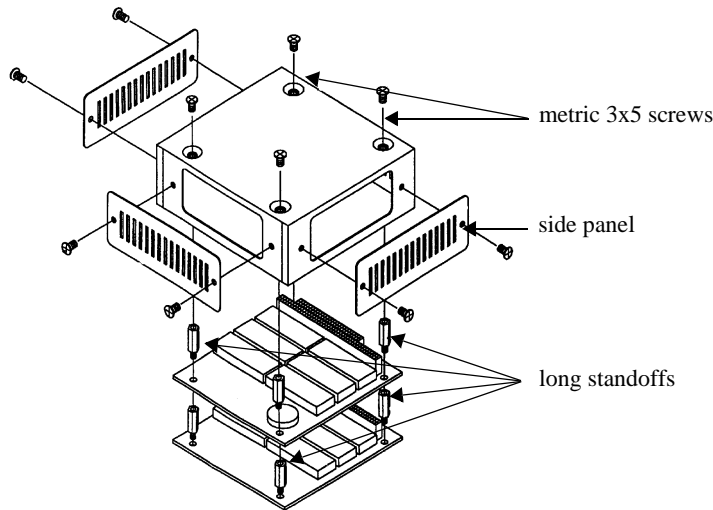

Figure 1 PC/104 Cards and Cover
1. Fasten 4 long standoffs to the previously installed PC/104 card . See *Figure 1*.